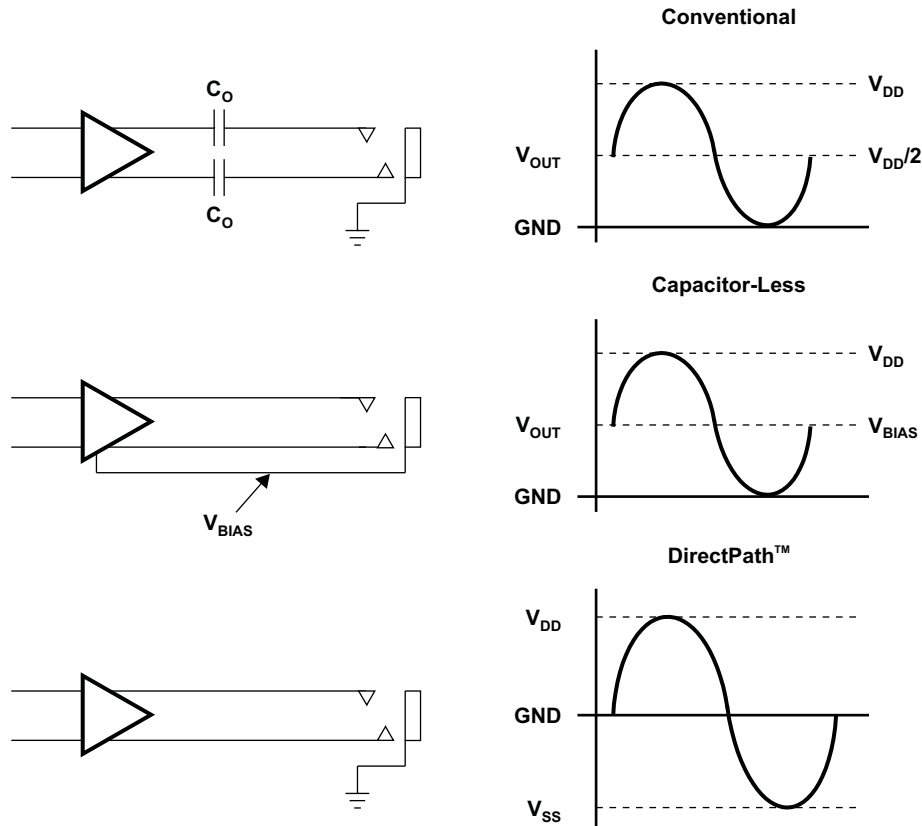

Figure 43. Amplifier Applications
The headphone amplifier has a fixed gain of  $-1.5$  V/V. It uses single-ended (SE) inputs. The DirectPath™ amplifier architecture operates from a single supply but makes use of an internal charge pump to provide a negative voltage rail. Combining the user-provided positive rail and the negative rail generated by the IC, the device operates in what is effectively a split supply mode. The output voltages are now centered at zero volts with the capability to swing to the positive rail or negative rail. The DirectPath™ amplifier requires no output dc blocking capacitors and does not place any voltage on the sleeve. The block diagram and waveform of Figure 43 illustrate the ground-referenced headphone architecture. This is the architecture of the TPA6041A4.
Single-supply headphone amplifiers typically require dc-blocking capacitors. The capacitors are required because most headphone amplifiers have a dc bias on the outputs pin. If the dc bias is not removed, the output signal is severely clipped, and large amounts of dc current rush through the headphones, potentially damaging them. The left-side drawing in Figure 43 illustrates the conventional headphone amplifier connection to the headphone jack and output signal.
Two different headphone amplifier applications are available that allow for the removal of the output dc blocking capacitors. The capacitor-less amplifier architecture is implemented in the same manner as the conventional amplifier with the exception of the headphone jack shield pin. This amplifier provides a reference voltage, which is connected to the headphone jack shield pin. This is the voltage on which the audio output signals are centered. This voltage reference is half of the amplifier power supply to allow symmetrical swing of the output voltages. Do not connect the shield to any GND reference, or large currents will result. The scenario can happen if, for example, an accessory other than a floating GND headphone is plugged into the headphone connector. See the second block diagram and waveform in Figure 43.